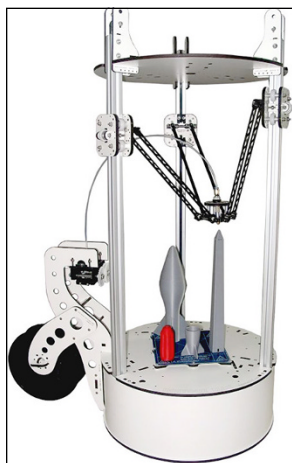

FIGURE 11-12:
- » **Rostock Max:** This design (see Figure 11-12) is inspired by the original Rostock but has a laser-cut frame and makes innovative use of bearings that run on aluminum extrusions to provide the linear motion of the machine. It's also one of the biggest machines on the market, capable of printing models of significant size. (You'll get a chance to look more closely at the Rostock Max kit in Chapter 12.)